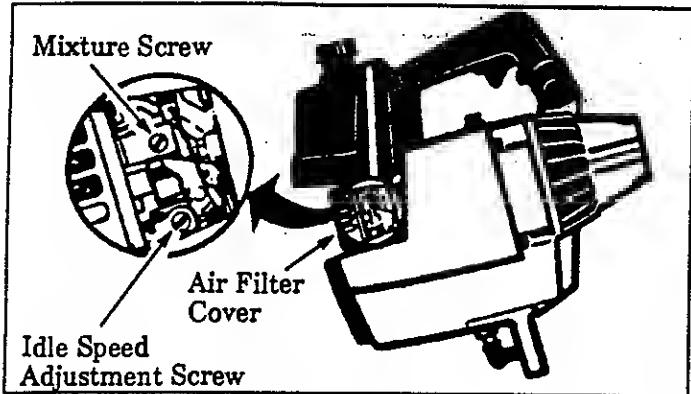

Figure 23
- a. Turn the Mixture Screw (Figure 23) clockwise until it stops. *Do not turn the screw until it is tight as damage to the needle seat can occur.*
- b. If the engine does not accelerate smoothly, turn the Mixture Screw (Figure 23) counterclockwise  a small amount (no more than the width of the slot in the adjusting screw).
3. Turn Mixture Screw (Figure 23) very slowly clockwise → until engine speed is reduced.